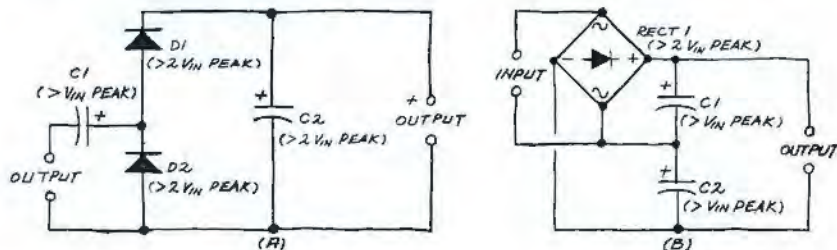
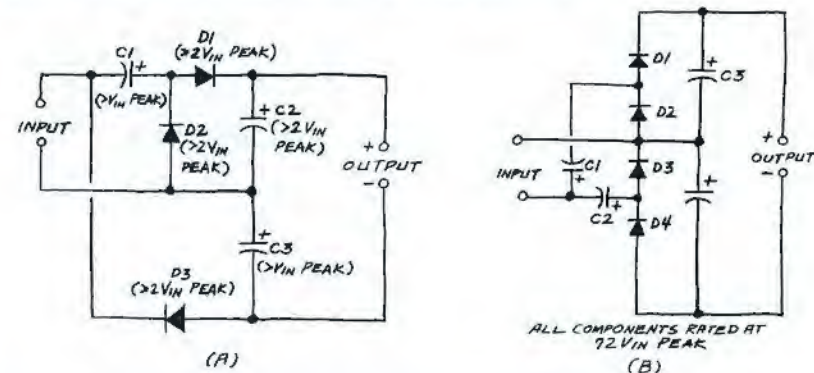

Fig. 2. Two different ways to make a voltage doubler.
Fig. 3. Full-wave voltage tripler and quadrupler circuits.
Figure 2 shows two other ways to make a voltage doubler. The cascade doubler (A) isn't as efficient or as well-regulated as either the traditional or bridge doubler, but it can easily be expanded to many stages. (Component voltage ratings are given in parentheses.) It's possible to obtain outputs of many thousands of volts from multi-stage cascade voltage multipliers. Figure 3 shows both a full-wave voltage tripler (A) and quadrupler (B).